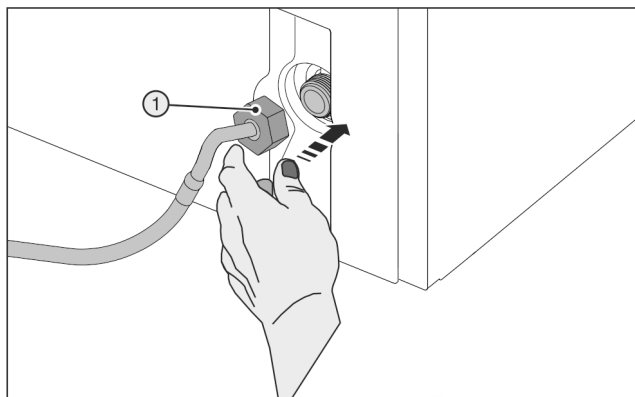

Fig. 24
- ▶ Carefully attach the nut Fig. 24 (1) and screw straight onto the thread.
- ▶ Carefully attach the nut Fig. 24 (1) and use both fingers to screw straight onto the thread so it sits firmly.
- ▶ Use the tool (5) only at room temperature.
- ▶ Tighten the nut Fig. 24 (1) with an auxiliary tool (5) to the maximum torque and until the tool (5) is overtorqued.